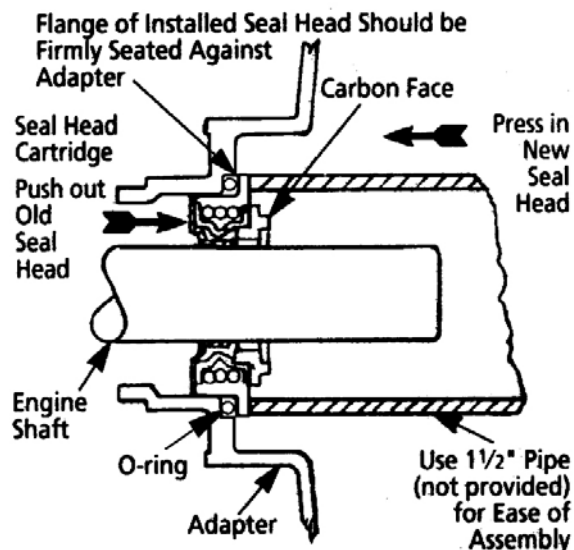

Figure 2 – Mechanical Seal Replacement
10. Place adapter seal (O-ring) onto seal head behind flange and press assembly into adapter as shown in Figure 2.